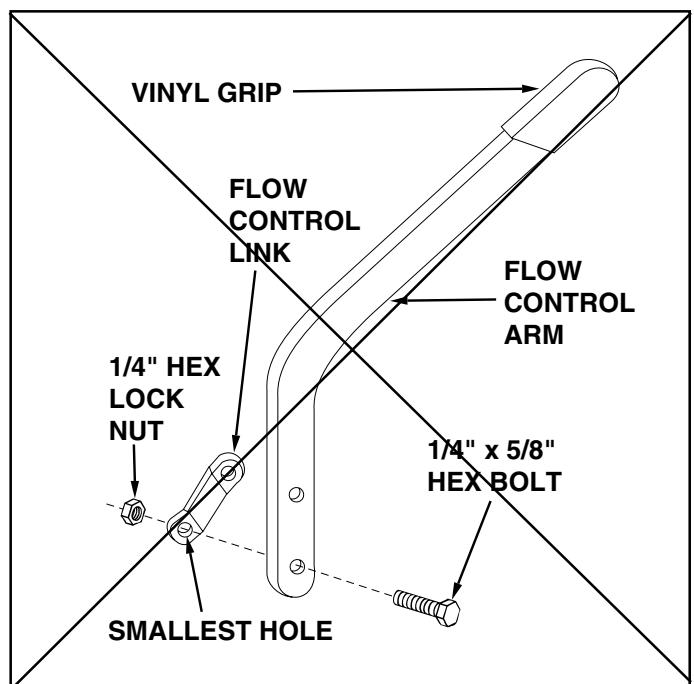

FIGURE 9
- Assemble the flow control link (the end with the smallest hole) to the flow control arm using one 1/4" x 5/8" hex bolt and one 1/4" hex lock nut. See figure 9. **DO NOT OVER TIGHTEN, FLOW CONTROL LINK MUST PIVOT FREELY.**
- Place the vinyl grip on the flow control arm. See figure 9.